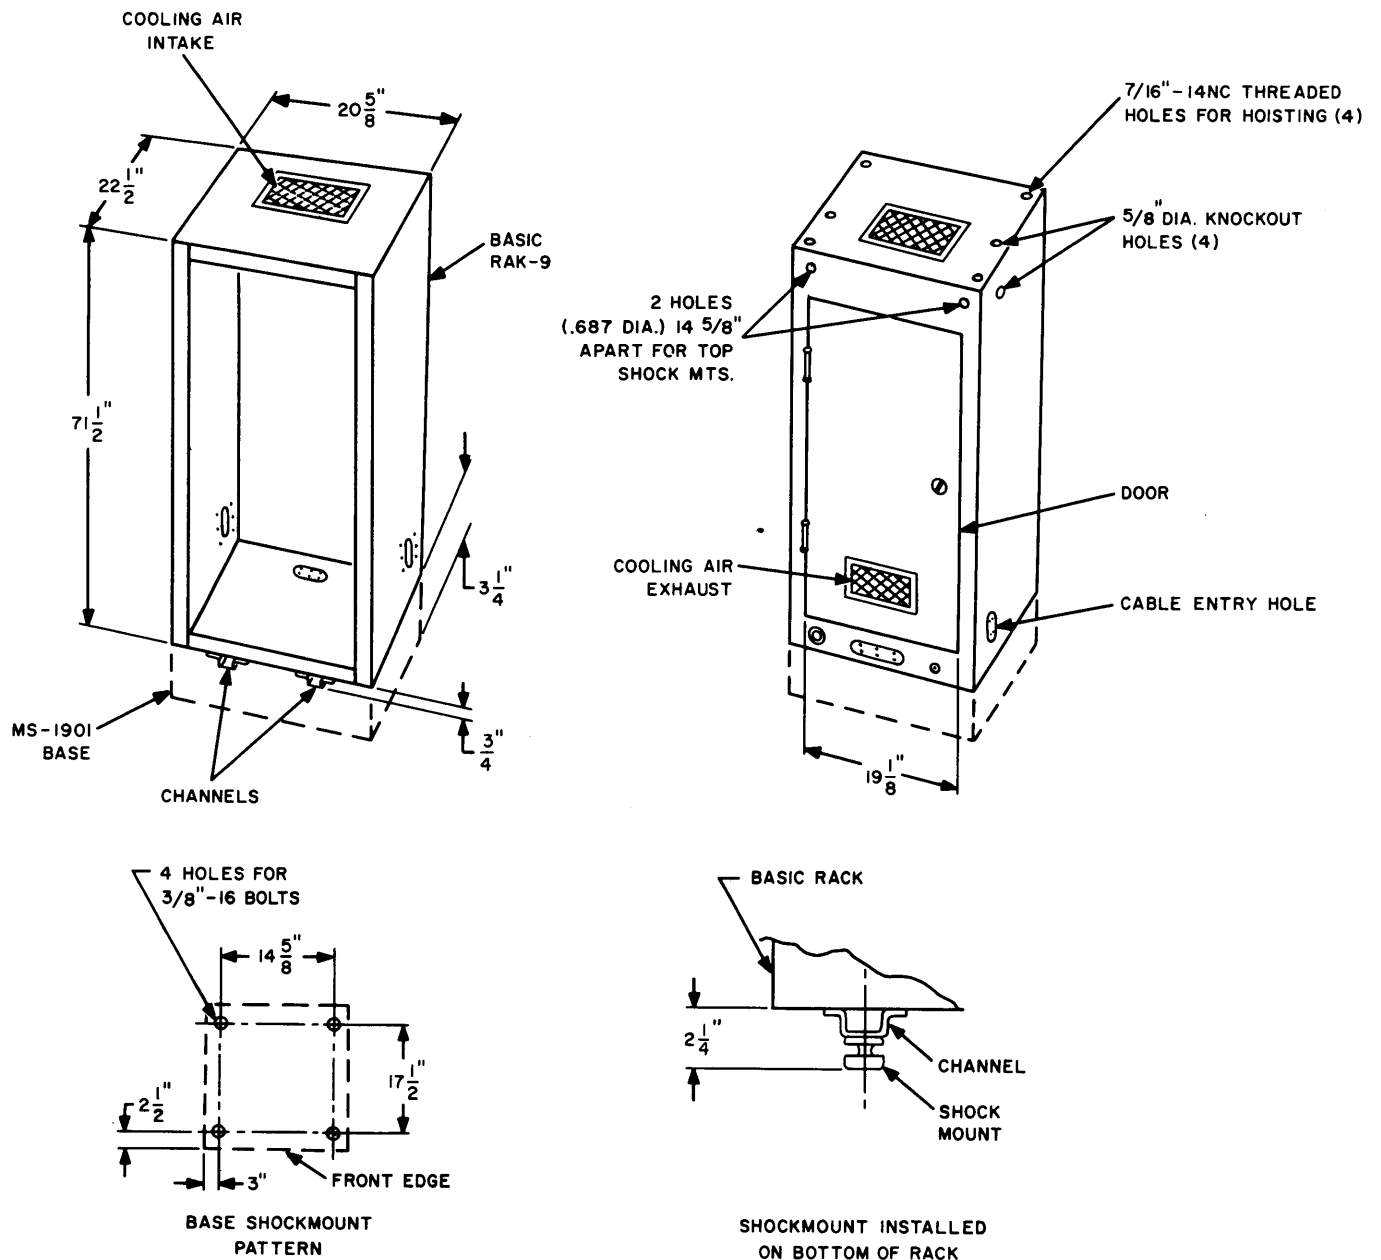

FIGURE 2-3. DIMENSIONAL OUTLINE AND INSTALLATION DRAWING, SBT-1K(B)
a. LOCATION OF TRANSMITTER - Before attempting to install the SBT-1K(B) ensure that adequate power (paragraph 2-2) is available
at the selected site or location. Refer to dimensional outline drawing figure 2-3 when choosing the operating location. The room (or van) in which the SBT-1K(B) is located must have a ceiling height of at least 7 feet. Adequate ventilation must be provided; operation of the transmitter in a poorly ventilated room will cause the surrounding temperature to become too high. Also, a clearance of about two feet at the rear of the rack is needed for opening the door. Locate the cabinet as close to the antenna as possible so that transmission lines between the transmitter and antenna are short. For information pertaining to antenna connections, refer to paragraph 2-3d.